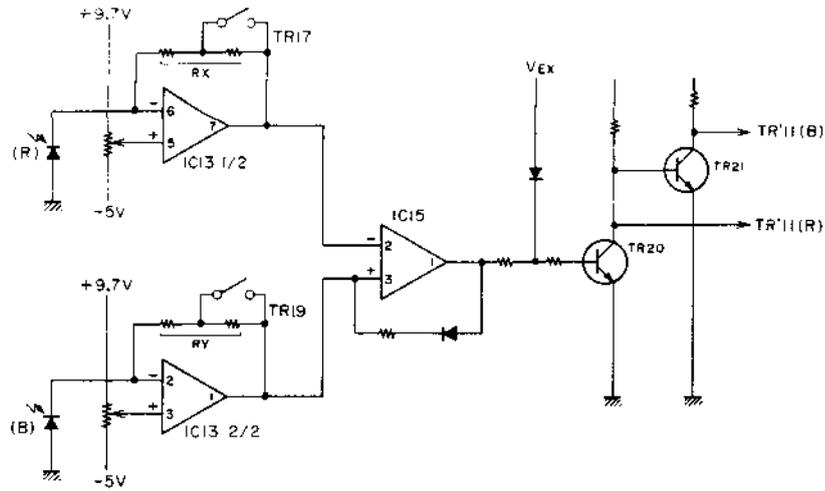

Fig. 23
The Circuit shown in Fig. 23 is used to switch between TR11 (R-channel) and TR11' (B-channel). The color temperature at the switching point between 3000°K and 5500°K is around 3700°K. With photo-diodes, forward current increases as the amount of incoming light increases. Therefore, with light of 3000°K coming in, a voltage drop by R_x exceeds that by R_y . This causes potential of IC13's ⑥ to drop, which in turn causes IC13's ⑦ to go to "H" level and IC13's ① to go to "L" level. Since IC15's ② is "H" and IC15's ③ is "L", its output (IC15 ④) is "L". This causes TR20 to be turned off and TR21 to be turned on, which in turn turns TR11 on. As a result, the gain of R-channel decreases and white balance is obtained. With IC14, as the amount of incoming light increases, voltage drop by R_x and R_y increases, which in turn causes IC14's ② and ① to decrease and TR17/TR19 to be turned on. As a result, the dynamic range is widened. In the similar manner, if a considerable amount of light is existing, IC14's ① decreases, TR18 is turned on, IC14's ⑥ goes to "L", and IC14's ⑦ goes to "H". This causes VEx to be applied from D1 to turn TR20 on, TR21 off and then TR11 on, thereby switching forcibly to 5500°K. (Note that this applies to AUTO mode only).